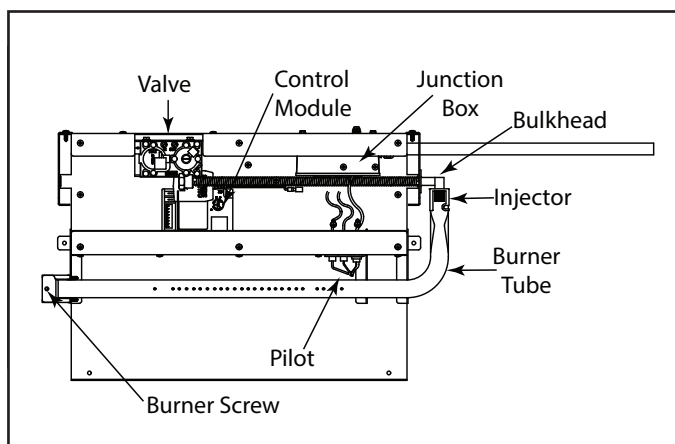

Figure 3.
1. With the cover assembly removed locate the single (1) screw securing the burner tube in place on the left side and remove. Figure 3